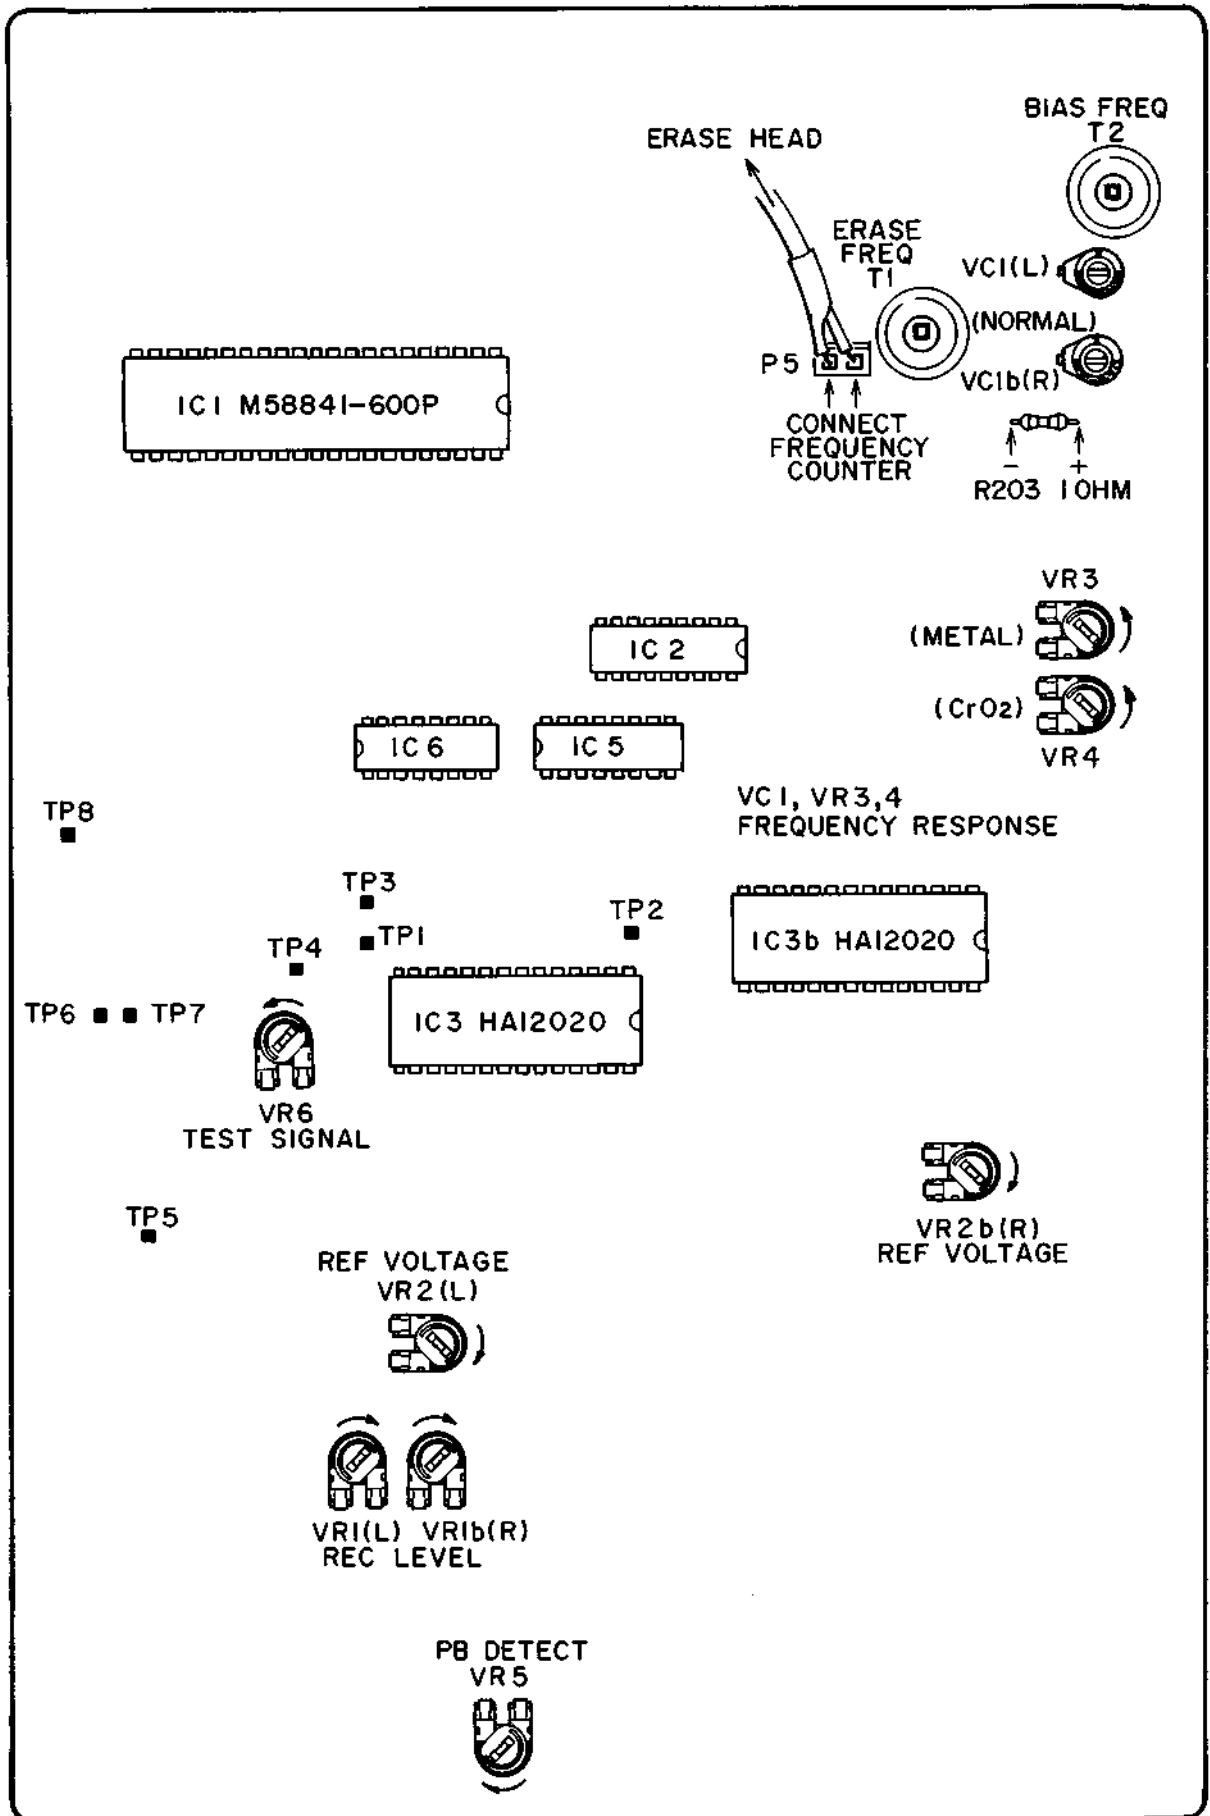

Fig. 12 Tuning P.C Board
**5. IC3 (HA12020) REFERENCE VOLTAGE****ADJUSTMENT (Fig. 12)**
- Adjust VR2 (L) so that the voltage to GND of TP1 will be  $1.10 \pm 0.03V$  DC.
- Adjust VR2b (R) so that the voltage to GND of TP2 will be  $4.00 \pm 0.05V$  DC (before SERIAL NUMBER 70401-00101),  $5.10 \pm 0.05V$  DC (after SERIAL NUMBER 70401-00101).
**6. REC BIAS OSC ADJUSTMENT (Fig. 12)**
- Set VC1 as shown in Fig. 12.
**7. FREQUENCY RESPONSE****ADJUSTMENT (Fig. 12)**
**8. RECORDING LEVEL ADJUSTMENT****(Fig. 12)**
**9. TEST SIGNAL ADJUSTMENT (Fig. 12)**